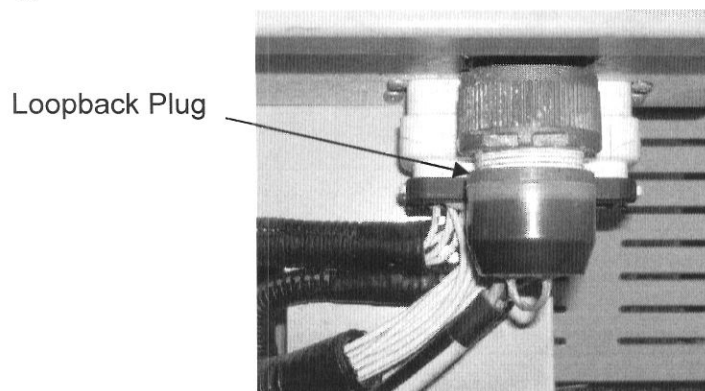

Figure 7-4. Loopback plug
- Disconnect the electric **LOOPBACK PLUG** from the receptacle on the bottom right of the ground (lower) control box. Refer to Figure 7-4.